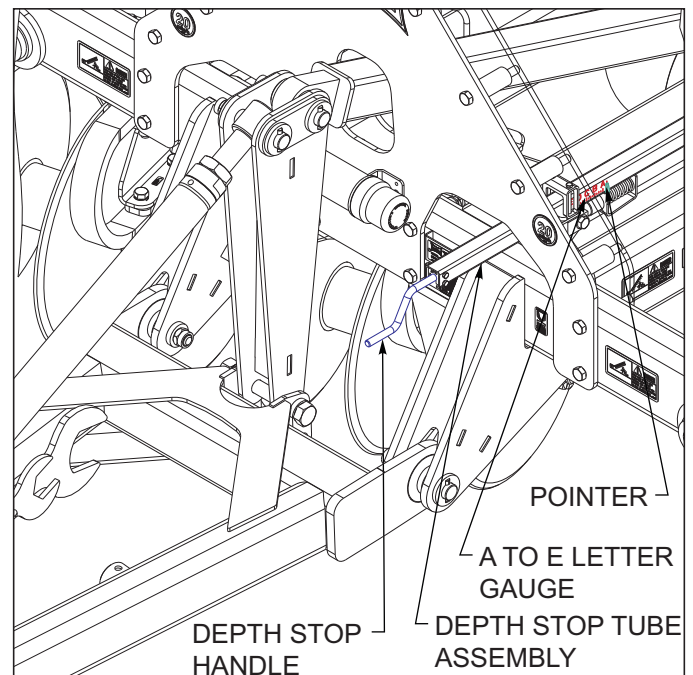

Figure 4-7: Depth Stop Adjustment
1. Adjust the depth stop by turning the handle in (clockwise) to increase operating depth **See Figure 4-7**. Turn the handle out (counter-clockwise) to decrease operating depth.